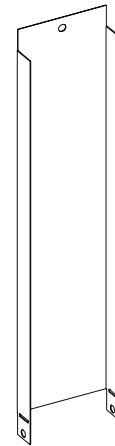

Figure 15
7. Locate the steel standoff brackets under the burner cover. See **Figure 15**.